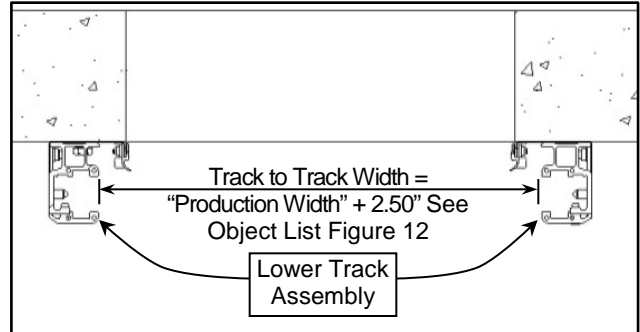

Figure 55
9. Check & confirm the alignment between the Upper & Lower track assemblies are plum, level, square, and true. Also check the Track to Track width as given in the Object List. The width between the track assemblies must be maintained at all points. Adjust as necessary. (See Figure 12 & Figure 55)